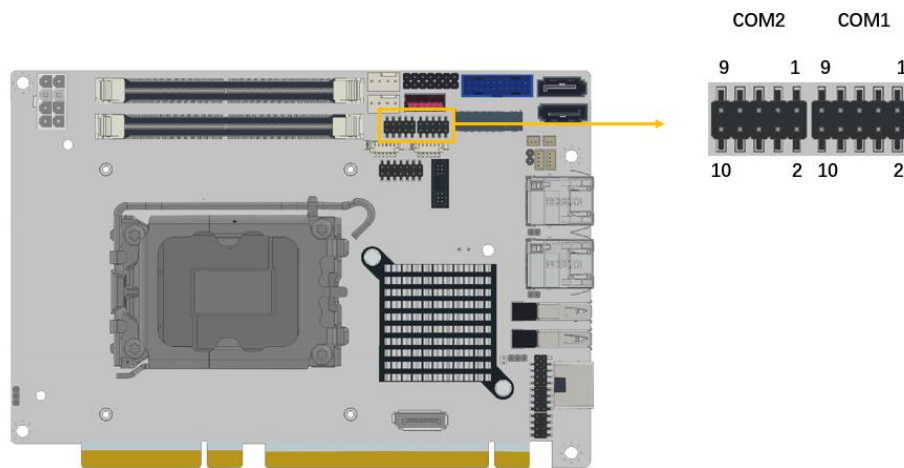

Figure 3-22: RS-232/422/485 Serial Port Connectors Location
- CN Location:** See Figure 3-22